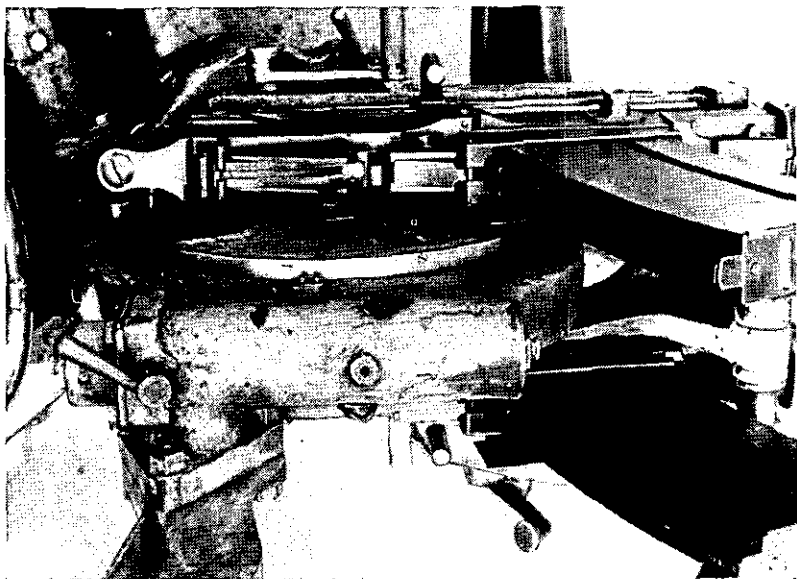

Figure 81.—Receiver of Model 93 (1933) 13-mm twin heavy machine gun as seen from above.
(5) *To load and fire.*—The guns are cocked individually by pulling back the cocking handles on the sides of the receivers (see fig. 81). The loaded magazines